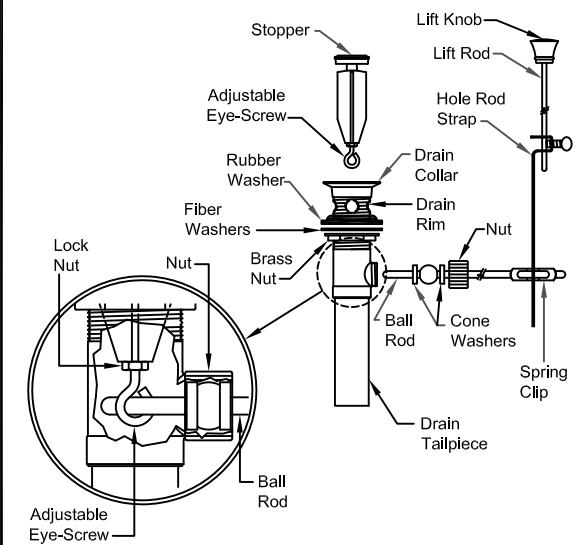

Fig. 3
- 4 Install Pop-up Assembly (See Fig. 3):**
- Insert stopper in collar and hold with eye-screw hole facing back. If necessary, adjust stopper eye-screw height by loosening lock nut and rotating counter-clockwise. Tighten lock nut (See Fig. 3).
- Insert ball rod into drain body below so short end of ball rod end fits in stopper eye-screw hole. Snug ball rod nut (do not over tighten). Ball rod must move up & down freely (See Fig. 3).